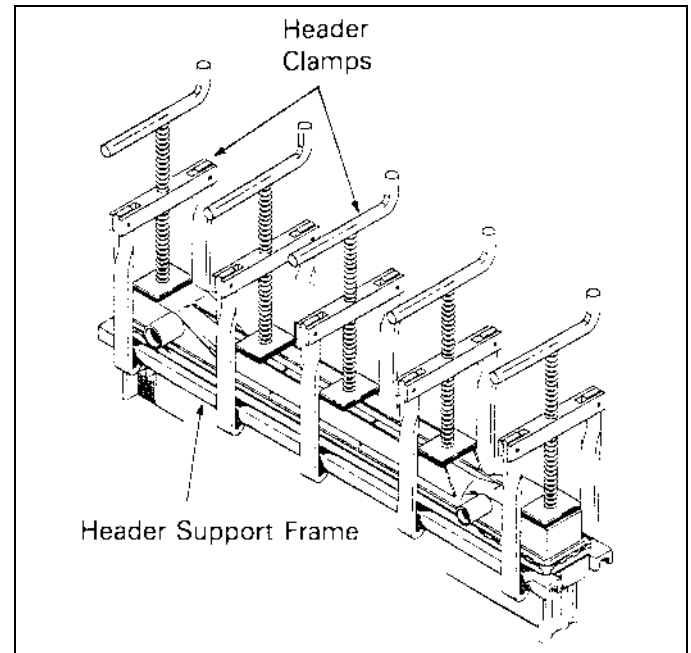

Figure 12-24
1. Position five (5) header clamps along with the header support frame as shown in Figure 12-24.
NOTE: It is very important that the header be completely (all four sides) supported as shown in Figure 12-24 to prevent header distortion. If the header becomes excessively distorted, the core may have to be replaced.
4. Clamp the tank in position on the header with five (5) header clamps and header support frame as shown in Figure 12-24. Tighten the header clamps to compress the O-ring gasket until the latching strips can be inserted by hand.